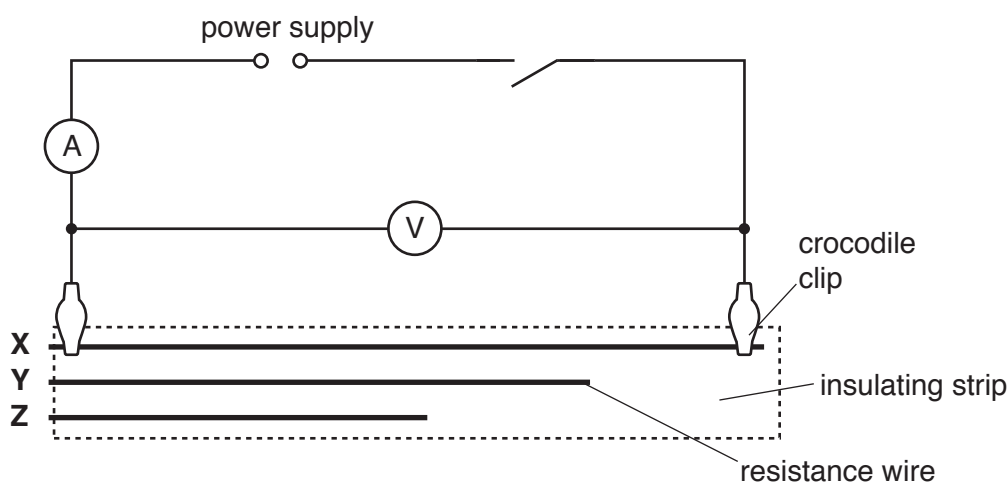

Fig. 2.1
- (v) Sufficient connecting leads to set up the circuit shown in Fig. 2.1.
2. The circuit is to be set up for candidates as shown in Fig. 2.1, with the crocodile clips connected to resistance wire **X**. The circuit should be switched off.
Ensure that the circuit is connected as shown in Fig. 2.1 and check that the circuit is working.